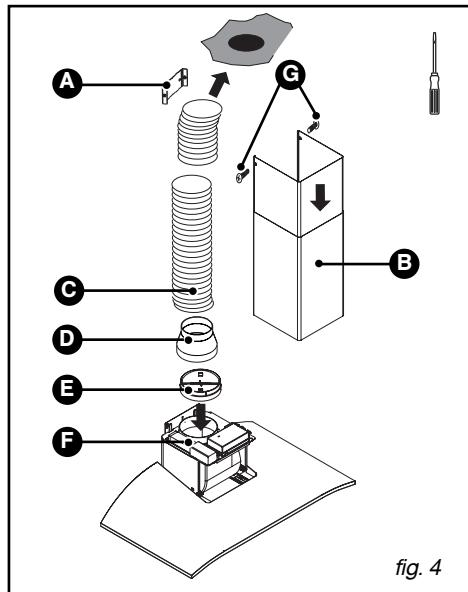

fig. 4
- Slide the end of the flue over the motor outlet (fig. 4).
- Prepare your telescoping ventilation shaft, taking care not to block the vents (fig. 4).
- Attach the upper portion of the chimney (B/fig. 4 on the metal chimney bracket (A/fig. 4) using the two screws (G/fig. 4).